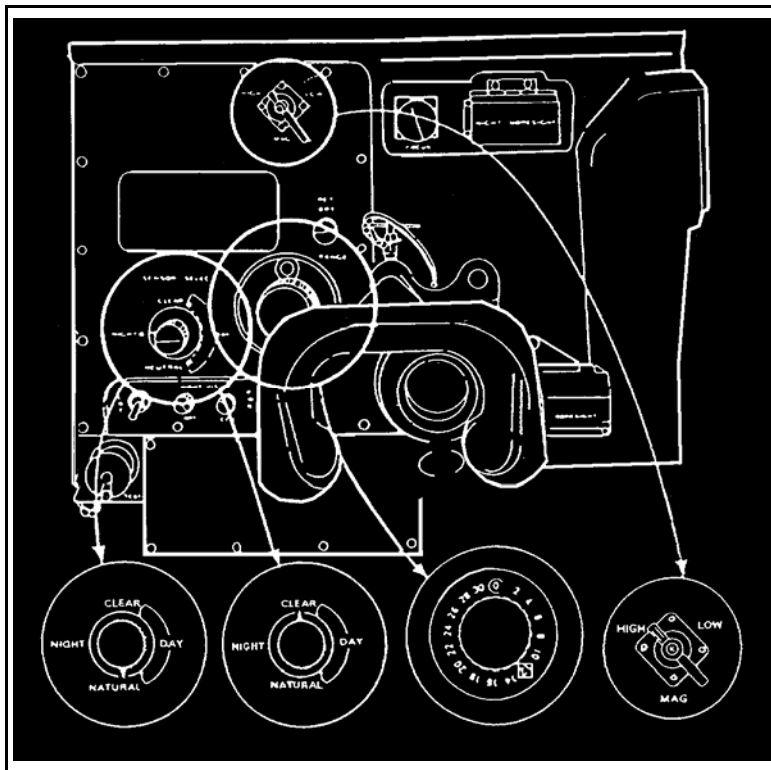

Figure 8. TOW boresight adjustment screw.
a. Turn the TOW boresight adjustment screw, using 1/8-inch flat-tip screwdriver, until the elevation crosshair aligns on the aiming point (Figure 8).